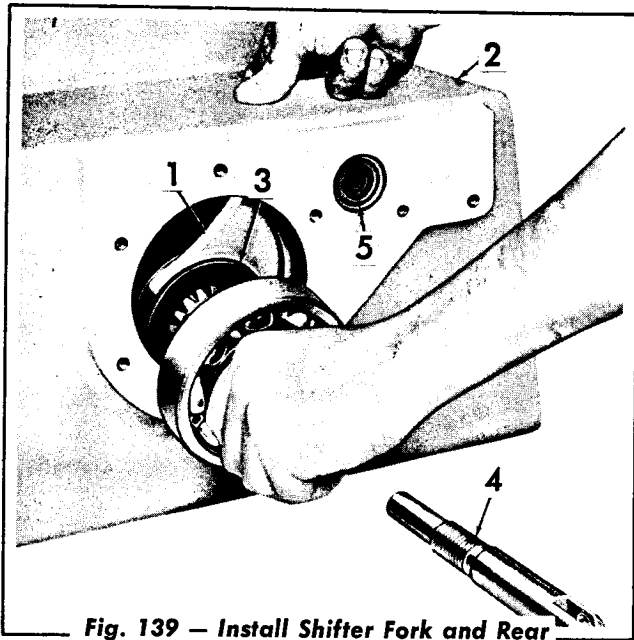

Fig. 139 — Install Shifter Fork and Rear Output Shaft
10. Install the shifter fork (Fig. 139) into the housing. Install the rear output shaft and the coupling, engaging the fork in the coupling groove. Continuing to hold the fork in position, install the shifter into its bore and thread it into the fork.